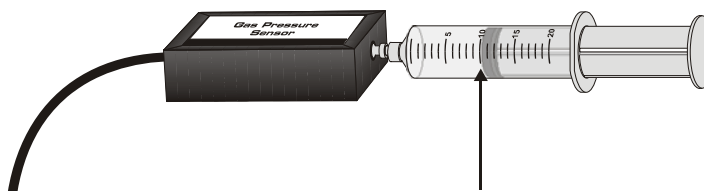

Figure 1
The primary objective of this experiment is to determine the relationship between the pressure and volume of a confined gas. The gas we use will be air, and it will be confined in a syringe connected to a Gas Pressure Sensor (see Figure 1). When the volume of the syringe is changed by moving the piston, a change occurs in the pressure exerted by the confined gas. This pressure change will be monitored using a Gas Pressure Sensor. It is assumed that temperature will be constant throughout the experiment. Pressure and volume data pairs will be collected during this experiment and then analyzed. From the data and graph, you should be able to determine what kind of mathematical relationship exists between the pressure and volume of the confined gas. Historically, this relationship was first established by Robert Boyle in 1662 and has since been known as Boyle's law.
- a. With the 20 mL syringe disconnected from the Gas Pressure Sensor, move the piston of the syringe until the front edge of the inside black ring (indicated by the arrow in Figure 1) is positioned at the 10.0 mL mark.